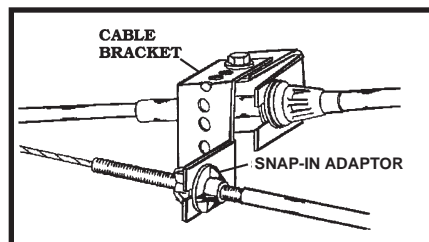

Figure 22
3. The **SNAP-IN ADAPTOR** snaps into the square hole of the **CABLE BRACKET** **Figure 22** or snaps into an existing square hole on the vehicle (*common on*